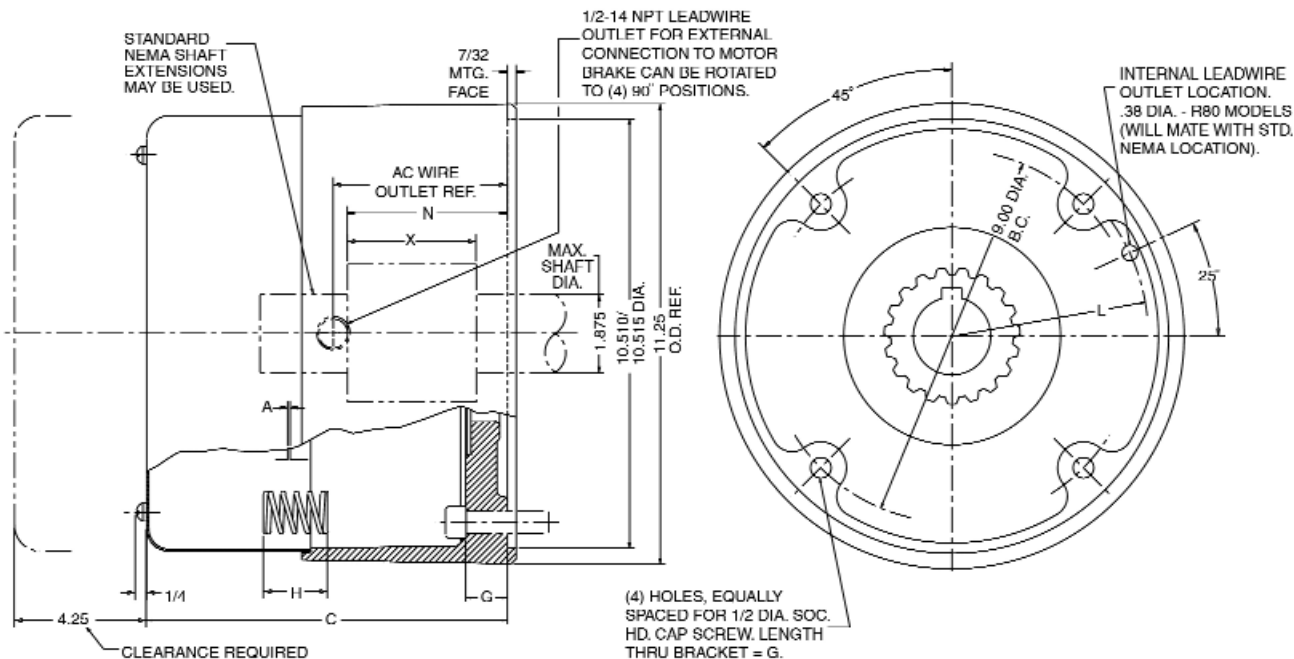

Figure 5. Standard Housing
1. Remove hub (21) from brake and position on motor shaft with key according to dimension "N". Stamped part number on hub should face away from motor. Tighten hub set screws with 12 lb. ft. torque.
2. Remove cover screws (16) and cover (17).
4. Bolt brake to motor "C" face with four 1/2 inch socket head cap screws. See Figure 5 for screw length thru bracket.